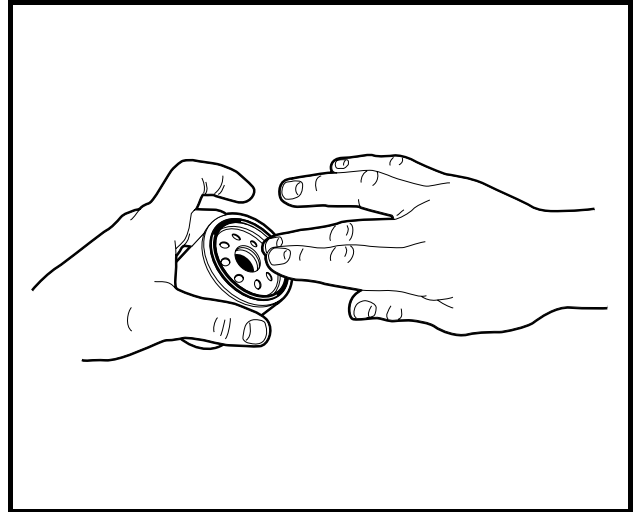

Figure 10-7 Coat Oil Filter Rubber Seal
11. Install a new oil filter (CCI P/N 1016467) onto the engine oil filter port. Apply a light coat of white lithium NLGI Number 2 grease (Dow Corning® BR2-Plus or equivalent) or new engine oil to the rubber seal around the outside surface of the filter before attaching it to the oil filter port (**Figure 10-7, Page 10-9**). This will help seal the filter to the oil mounting bracket. **See following NOTE.**